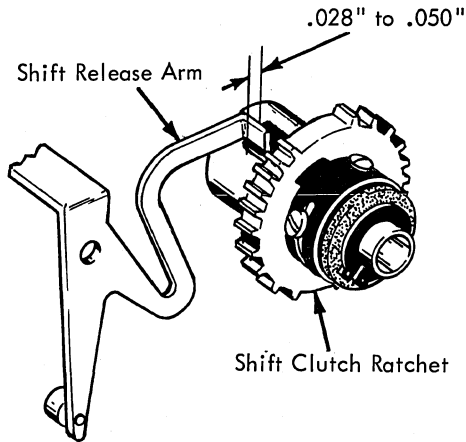

FIGURE 29.1 Shift Clutch Ratchet Adjustment
- 2.1 Shift Clutch Ratchet Adjustment (Late) (Fig. 29.1) - Adjust the shift clutch ratchet to satisfy the following condition. With the machine turned off and the shift cam detented, the shift clutch ratchet will rotate $.028''$ to $.050''$ when the shift release arm releases the ratchet. The rotation can be observed relative to the shift release arm and the shift cam stop. Be sure to loosen the set screw in the ratchet before adjusting. Remove play from the shift ratchet in a clockwise direction. Note: The C-7 cam must be removed to make the above adjustment.